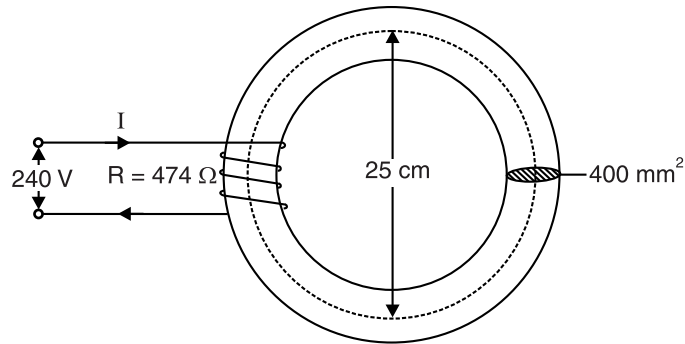

Fig. 8.9
**Solution.** The conditions of the problem are represented in Fig. 8.9.